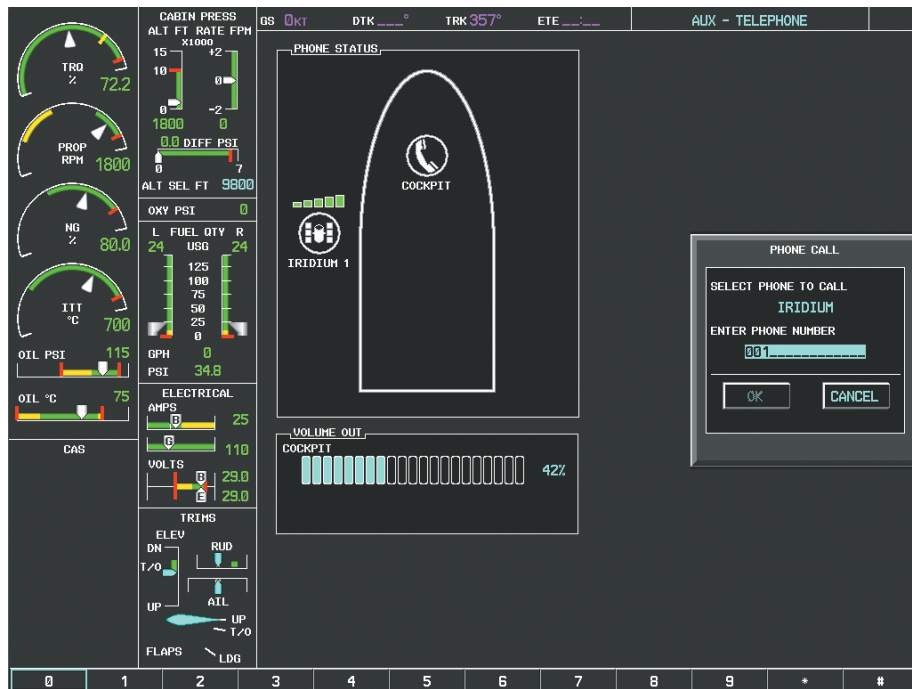

Figure 8-90 Enter Phone Number
- 2) Select the **DIAL** Softkey on the MFD. A display similar to Figure 8-90 will be shown.